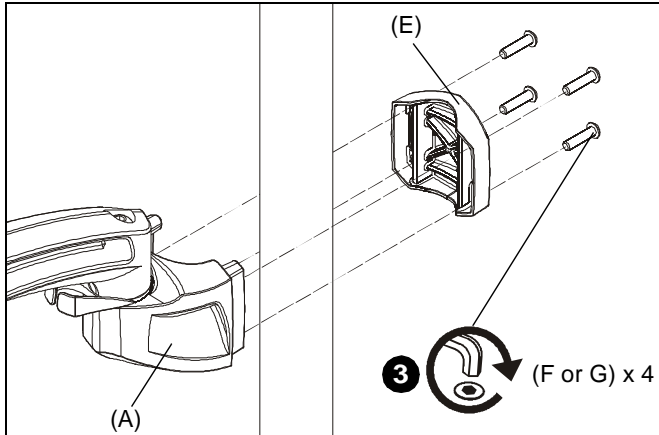

Figure 1
2. Place mount (A) against pole with clamp (E) on opposite side of pole. (See Figure 1)
3. Using 5/32" hex key (K) and appropriate length screws, loosely attach assembly to pole clamp (E). If installing to 1 1/2" NPT pipe, use 1/4-20 x 1 1/2" button head cap screws (F). If installing to 1 1/2" diameter pipe, use 1/4-20 x 1" button head cap screws (G). (See Figure 1)